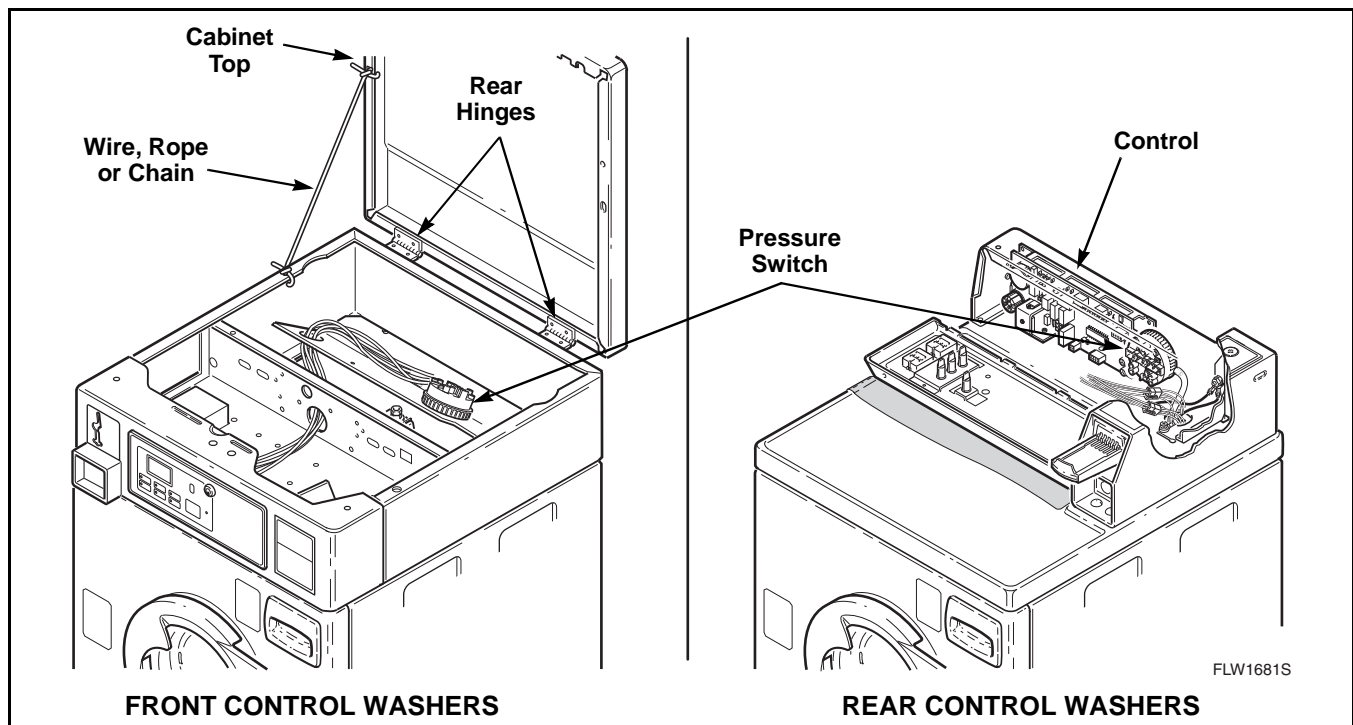

Figure 30
- d. Squeeze in locking tabs on pressure switch and remove switch. Refer to *Figure 30*.